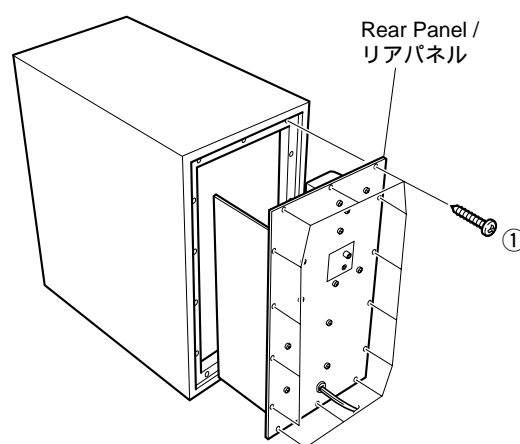

Fig. 2
Remove 14 screws ( ① ) in Fig. 2.
( Fig. 2 )